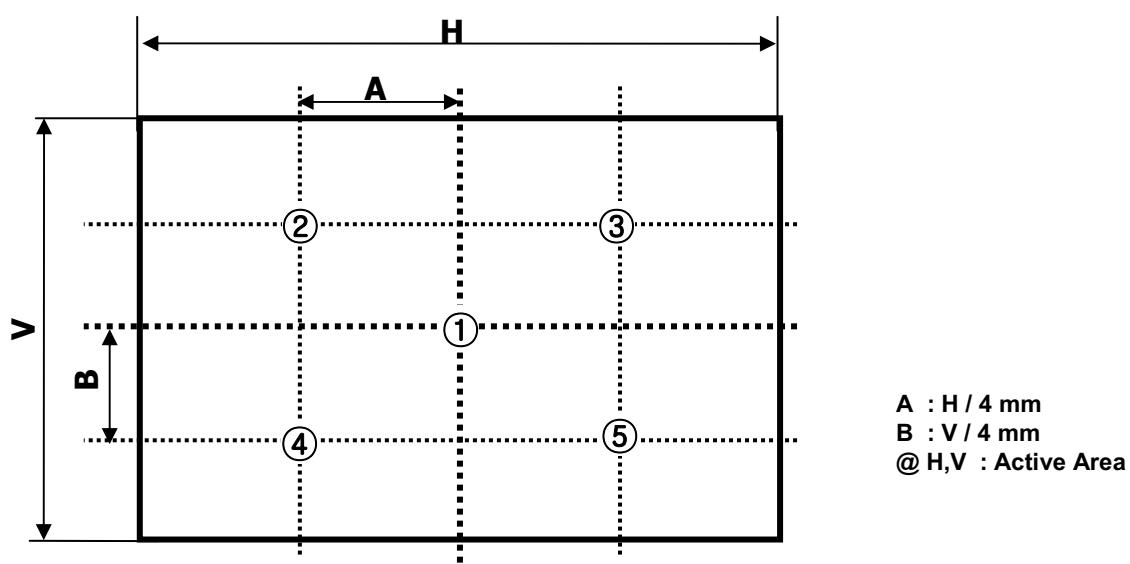

FIG. 2 5 Points for Luminance Measure
n = the Position number(1, 2, 3, 4, 5). For more information, see FIG 2.
2. Surface luminance is determined after the unit has been 'ON' and 1 hour after lighting the backlight in a dark environment at 25±2°C. Surface luminance is the luminance value at center 1-point across the LCD surface 50cm from the surface with all pixels displaying white. For more information see the FIG. 2.
For more information, see the FIG. 2.